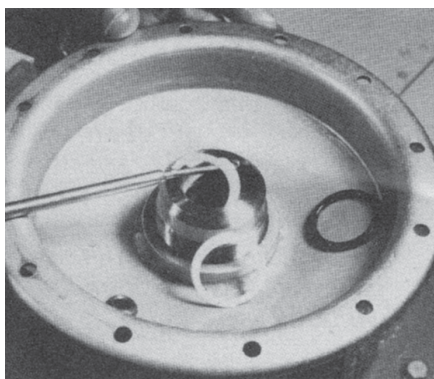

Figure 4-13 Removing retainers and O-ring from fluid body.
- 4.11 Using o-ring removal tool, carefully remove the two Teflon[®] retainers (18) and o-ring (17) from the seal groove in the fluid body (21). See Figure 4-13. Discard the old retainers and o-ring. For o-ring removal of JB models, see page 15.